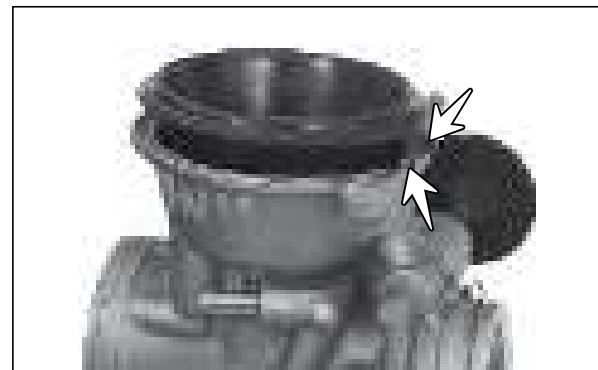

Fig. 4.33
- Assemble piston valve in such a way that the hook like projection of diaphragm matches with the groove of carburettor body. (Fig. 4.33)